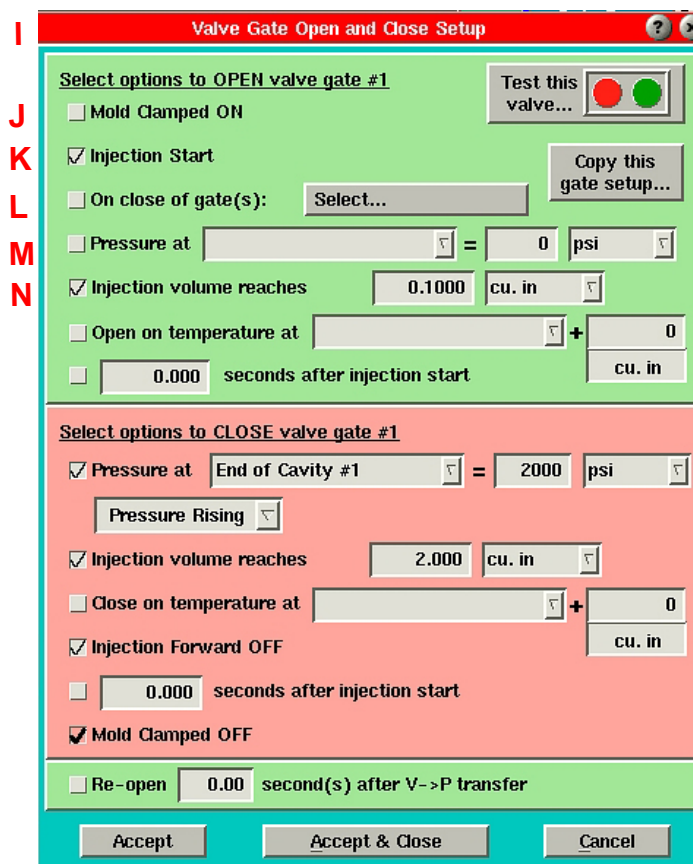

Figure 14: Valve Gate Open and Close Setup tool
- E. Close Valve at Volume:** When the volume (from the stroke/screw area) reaches this level, the valve will close. If this field is highlighted in blue, the valve closed on volume. The value in this column is shown in the units selected on the Valve Gate Close Control screen (Figure 14).
- If the value is gray and cannot be set, the Close on Volume control is not enabled. Open the Valve Gate setup screen (Figure 14) and check the "Injection volume reaches" box.
- H. Setup:** Each valve gate has separate settings for open and close controls. You can set them by clicking the Setup button for each specific valve gate and choosing either Valve Open Control or Valve Close Control from the menu. In addition, you can test the operation of the valve gate control contacts by selecting "Test this valve". (See Figure 14)